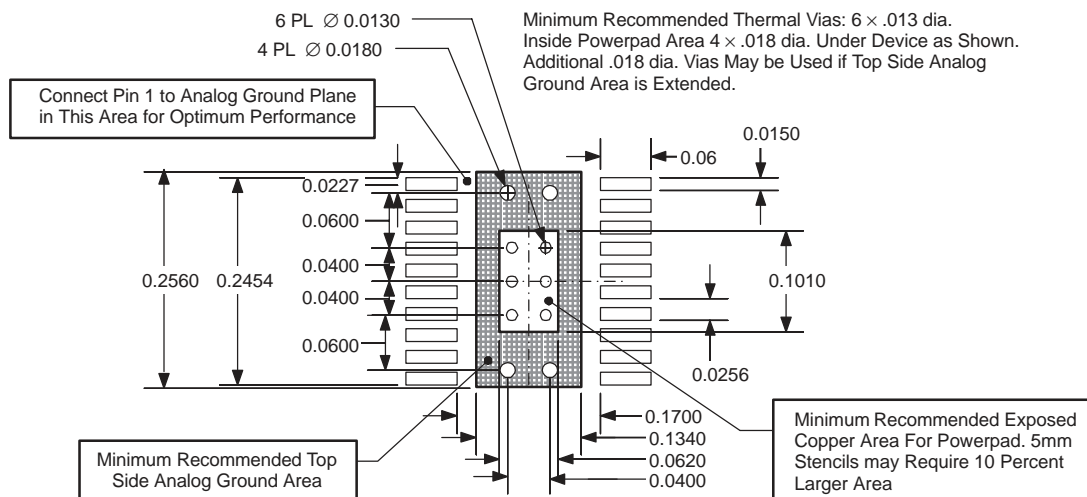

Figure 10. Recommended Land Pattern for 20-Pin PWP PowerPAD
(1) Specified by design
(2) Static resistive loads only
(3) Specified by the circuit used in Figure 10
(4) Matched MOSFETs low-side r_{DS(on)} production tested, high-side r_{DS(on)} specified by design